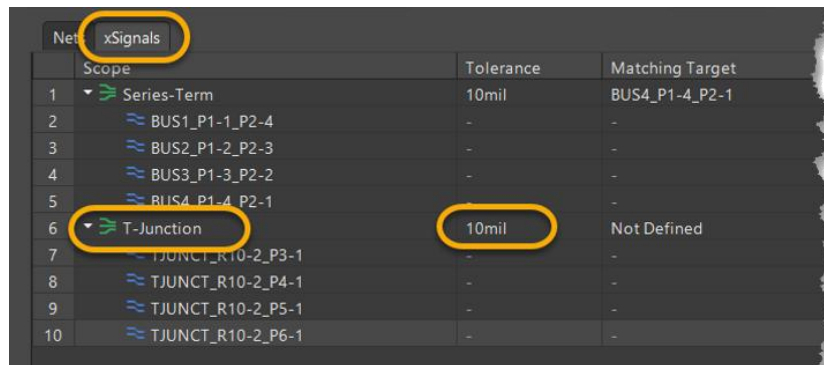

Figure 22. Constraint Manager with xSignal Class T-Junction and Tolerance
54. Select the Tab xSignals and configure the new xSignals, as seen in Figure 22.